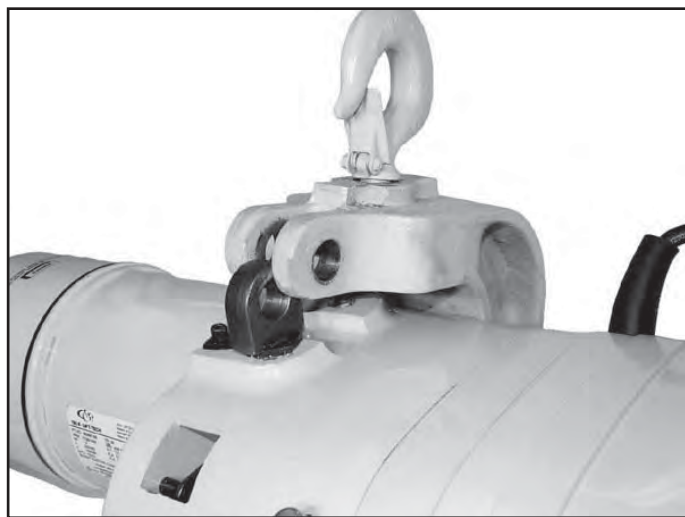
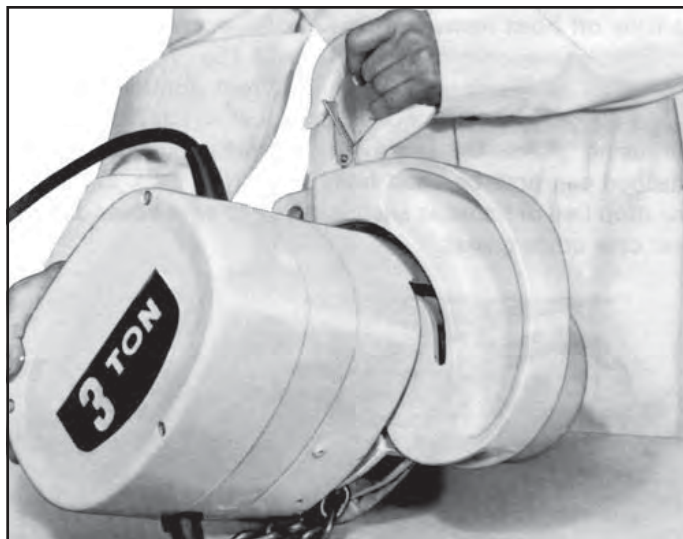

Figure 7-2. 3 Ton Hanger Bracket Connection Pin Removed
Figure 7-3. Removing 3 Ton Hanger Bracket from Hoist Frame
(4) To remove 3 ton hanger bracket from hoist, remove retaining ring and connecting rod pin (see fig. 7-2). Rotate hoist approximately 45° (see fig. 7-3) and hanger will slip free from hoist frame.
(3) On 3 ton models, remove retaining ring from connecting rod pin and push connecting rod pin through bracket and connecting rod, releasing hanger (see fig. 7-2). Raise hanger above hoist frame to provide access to hook nut. Rotate hook until grooved pin in nut is visible from end of hanger frame. Using a drift punch,
(4) To remove connecting rod (fig 7-2) on 3 ton hoist, remove screw securing suspension bushing keeper. Unscrew suspension bushing to remove connecting rod from frame.